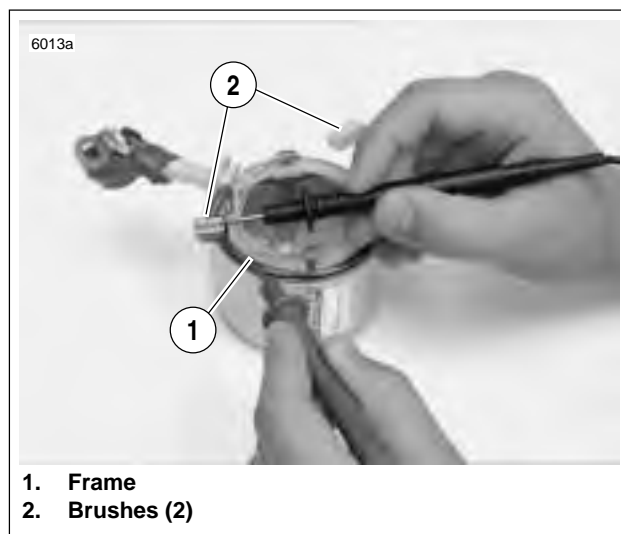

Figure 5-23. Grounded Field Test
12. See Figure 5-23. Check for GROUNDED FIELD COIL with an ohmmeter or continuity tester.
- Touch one probe to the frame (1).
- Touch the other probe to each of the brushes (2) attached to the field coil.